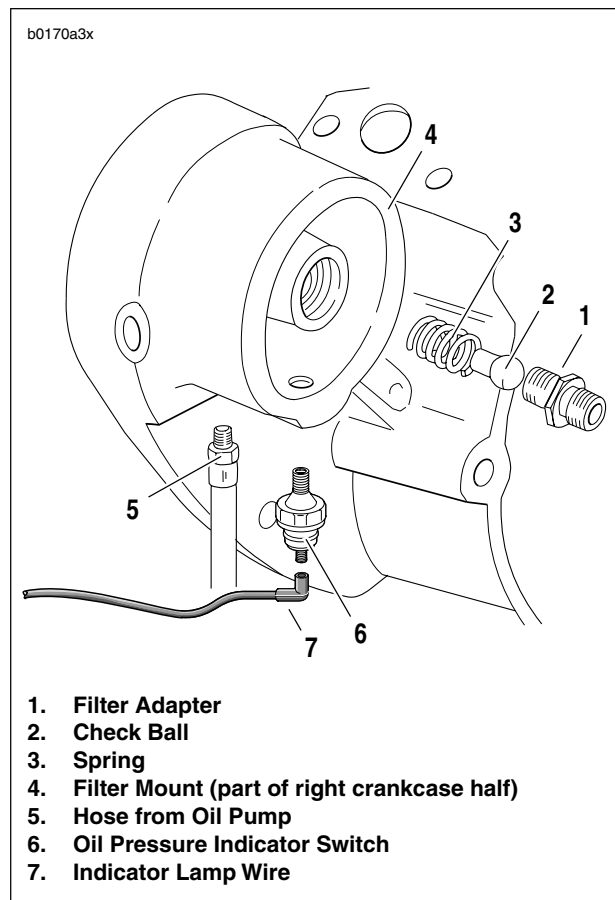

Figure 3-58. Oil Filter Mount
See Figure 3-58. Oil is pressure-fed from the oil pump to the filter mount (4) via a hose (5). Oil travels through the filter mount into the filter via outer filter holes.
2. See Figure 3-58. Remove filter adapter (1) from filter mount (4). Remove check ball (2) and spring (3).
3. Detach indicator lamp wire (7) from oil pressure indicator switch (6). Remove switch using OIL PRESSURE SENDING UNIT WRENCH (Part No. HD-41675).
1. See Figure 3-58. Install oil pressure indicator switch (6) using OIL PRESSURE SENDING UNIT WRENCH (Part No. HD-41675). Tighten to 5-7 ft-lbs (7-10 Nm).